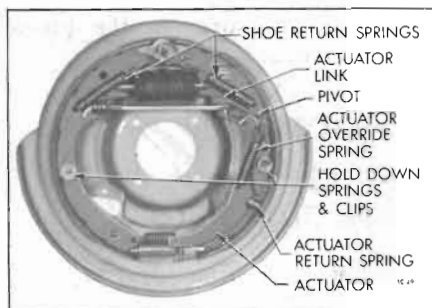

Figure 50-49—Rear Left Wheel Brake Assembly
The parking brake control system, which applies only the rear wheel brakes, uses a foot-operated lever, conduit enclosed cables, and brake shoe levers and struts. By means of an equalizer, the front parking brake cable is connected to the forward portion of a center cable. See Figures 50-39 and 50-41. This center cable is routed rearward from the equalizer through retaining guides which attach to right and left side frame rails. The center cable attaches at either end to a rear cable assembly. Each rear cable connects to the free lower end of a brake shoe lever. These levers (one in each rear brake shoe assembly) pivot on the secondary shoes. Struts are mounted between the brake shoe levers and the primary shoes. See Figure 50-49.
6. Separate the brake shoes by removing adjusting screw and lock spring. Remove parking brake lever from secondary brake shoe (rear only). See Figure 50-49.
4. Place brake shoes on backing plate, at the same time engaging shoes with wheel cylinder links. The primary shoe (short lining) goes forward. On rear brakes, connect cable to parking brake lever and install strut and spring between lever and primary shoe as shown in Figure 50-49.